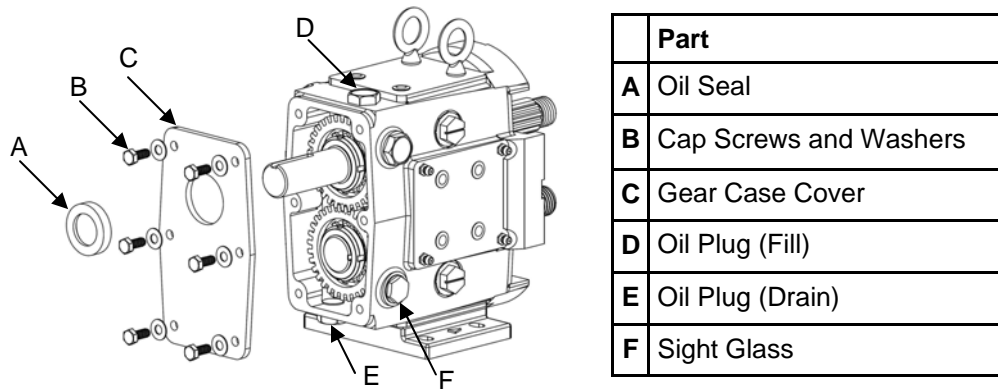

Figure 42: Gear Case Disassembly (Gear Case Cover)
1) Remove the pump head as described on page 16 (Pump Disassembly). Remove the bottom oil plug and drain the oil from the gear case (remove oil fill plug for faster drain). Remove the six hex head cap screws and washers from the gear case cover and slide the cover off the drive shaft (Figure 42). If the cover is stuck, use a soft mallet to tap around the edges until it breaks free. Using a straight edge remove the liquid gasket used to seal the cover to the gear case. Remove and discard the oil seal from the cover using an arbor press.